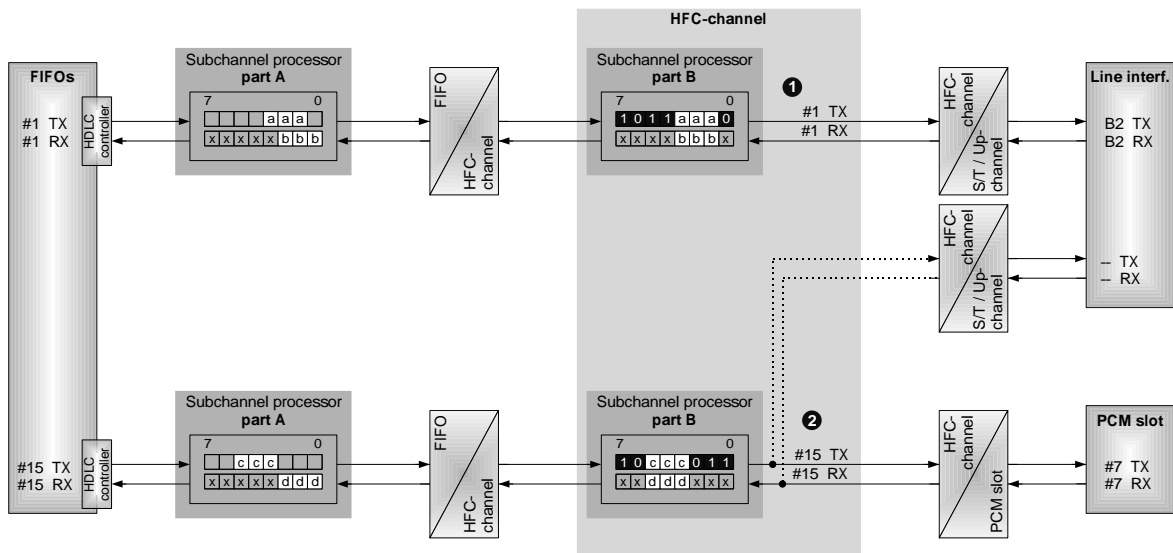

Figure 3.17: SM example with subchannel processor
The subchannel processing example in Figure 3.17 shows two bidirectional configurations (❶ FIFO-to-ST/Up and ❷ FIFO-to-PCM) in *Simple Mode*.
**Table 3.6:** Subchannel processing according to Figure 3.17 (SM ① TX, transparent mode)
**Table 3.7:** Subchannel processing according to Figure 3.17 (SM ① RX, transparent mode)